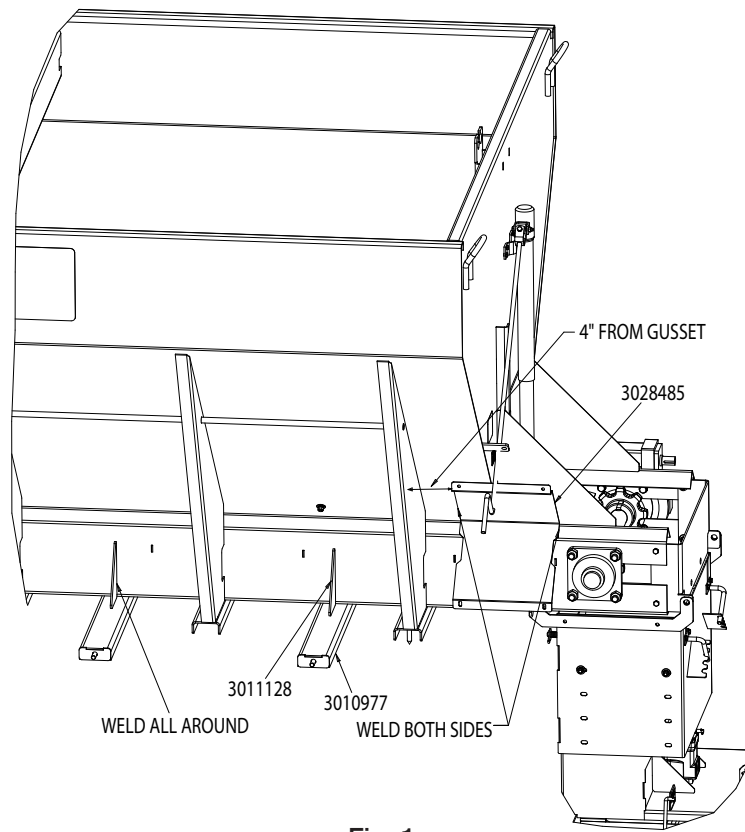

Fig. 1
1. Position pump enclosure bracket (#3028485) 4" from rear gusset on driver side of hopper spreader, (see fig. 1). Make sure bracket is rested on hopper's sill.
2. Weld pump enclosure bracket (#3014084) in place as shown in fig.1.
3. Position reservoir brackets (#3010977), gussets (#3011128) and bracket tie downs (#3011124) as shown in fig.2. Weld all parts in place as shown in fig.2 and fig.1 on both sides of spreader.